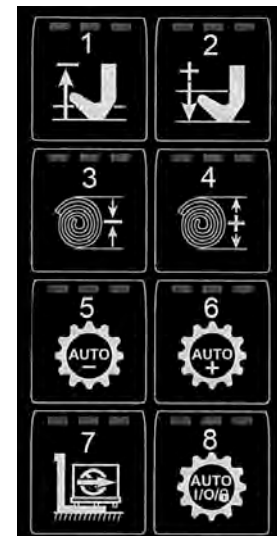

Fig.3. Console 8-Pad Control.
- Fig.3.Cut Depth : **Increase**- Pad 2.**Decrease**—Pad 1.
- Fig.3.Roll Dia.: **Increase** – Pad 4. **Decrease**—Pad 3.